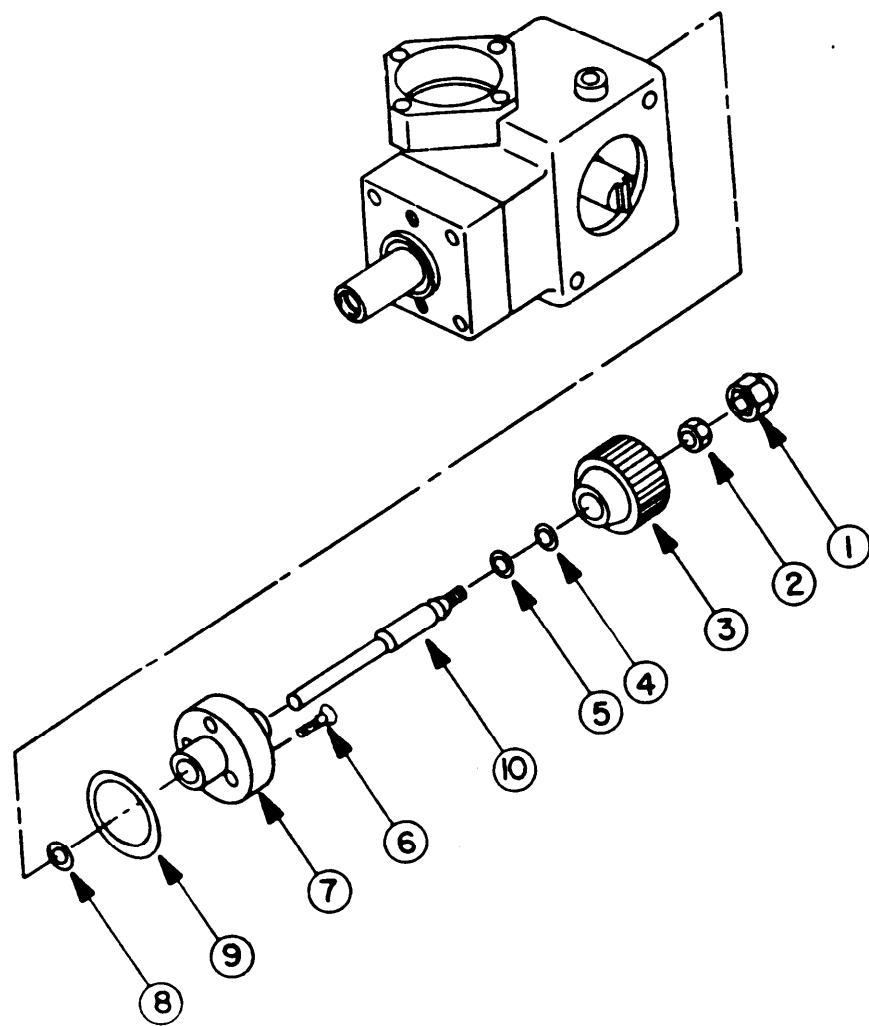
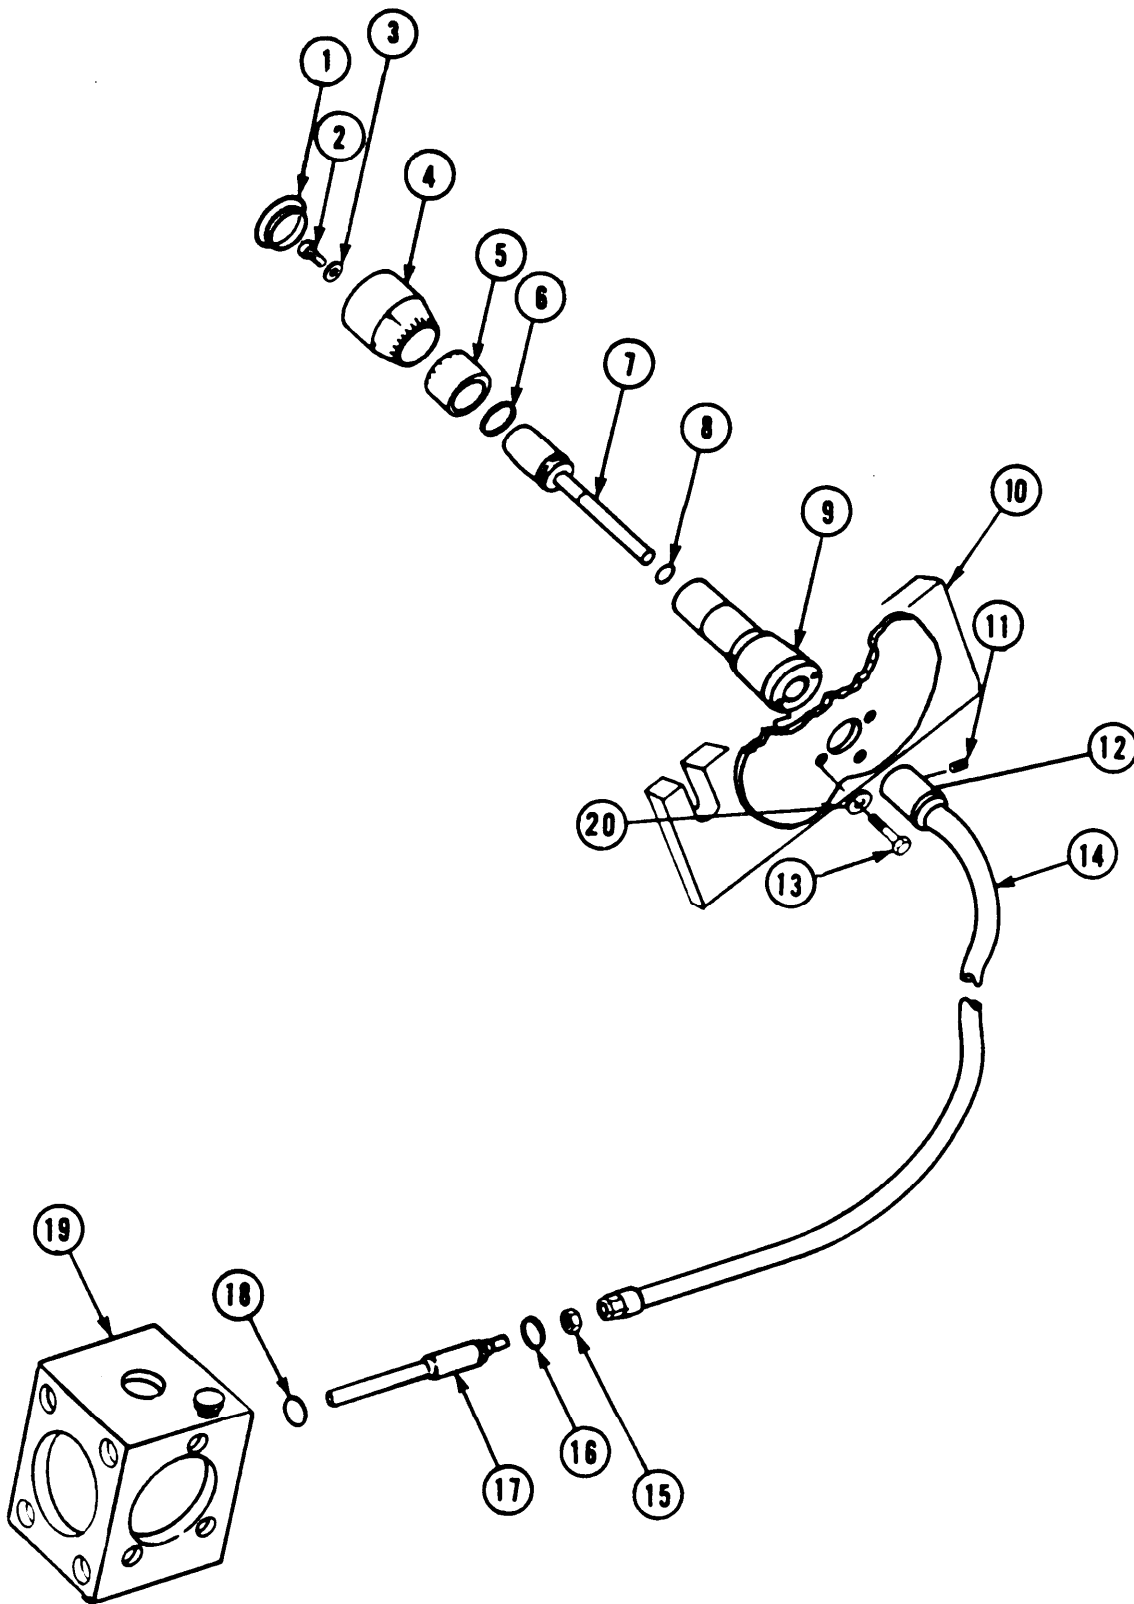

Figure 3-31. Chemical Feed Pump Stroke Adjustment Control (ARMY)
Figure 3-32. Chemical Feed Pump Stroke Adjustment Control (USMC)
- c. Disassembly. (Figure 3-31) (ARMY)
- (1) Remove protective cap (1) from nut (2),
- (2) Remove nut (2) from adjusting spindle (10).
- (3) Remove adjustment wheel (3) from adjusting spindle (10).
- (4) Remove washer (4) and O-ring (5) from shaft of adjusting spindle (10). Discard O-ring (5).
- (5) Remove three hollow-head mounting screws (6) holding flange (7) to pump drive unit.
- (6) Remove flange (7) from drive unit.
- (7) Remove seal ring (8) from hub of flange (7). Discard seal ring (8).
- (8) Remove gasket (9) from flange (7). Discard gasket (9).
- (9) Pull adjusting spindle (10) out of flange (7).
- (1) Clean threads on nut (2) and three screws (6).
- (2) Clean seizing cement from threads on adjusting spindle (10).
- (3) Clean Inside of adjustment wheel (3) and flange (7).
- (4) Clean gasket seat face of flange (7).
- (5) Polish flange mating portion of adjustment spindle (10).
- e. Disassembly. (Figure 3-32) (USMC)
- (1) Replace all gaskets, O-rings, and seal rings.
- (2) Replace all damaged screws, nuts, nut caps, and washers.
- (3) Recut threads of adjusting spindle or replace if badly damaged, bent, or unrepairable.
- (4) Replace damaged or unusable flange.
- (5) Remove burrs from adjustment wheel with file or emery cloth.
- (6) Replace adjustment wheel if badly damaged and unrepairable.
i. Installation. (Figure 3-31) (ARMY)
- (1) Slide adjusting spindle (10) through flange (7).
- (2) Place gasket (9) on flange (7).
- (3) Install seal ring (8) on hub or flange (7).
- (4) Hold gasket (9) and flange (7) in place on pump drive unit and align mounting holes.
- (5) Install three screws (6) through flange (7), gasket (9), and pump drive unit.
- (6) Install washer (4) and O-ring (5) on shaft of adjusting spindle (10).
- (7) Insert adjustment wheel (3) on adjusting spindle (10).